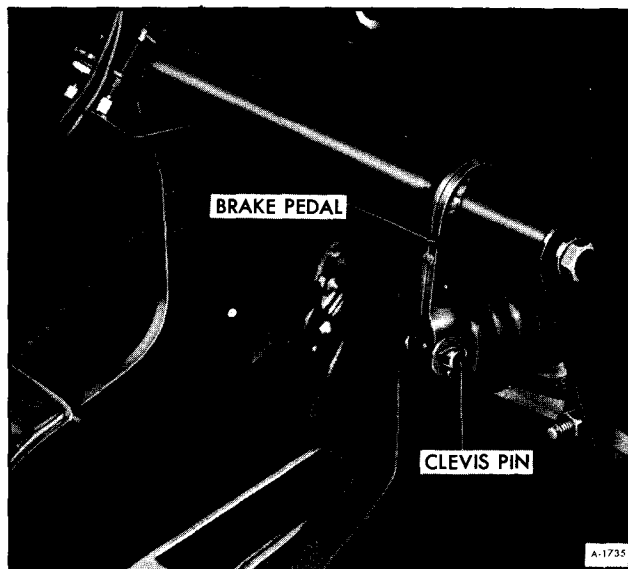

Figure 21—Clevis Pin Location
3. Remove clevis pin from brake pedal (Refer to figure 21).
3. Remove cotter pin from pin retaining power booster clevis to brake pedal. Remove clevis pin (figure 21).